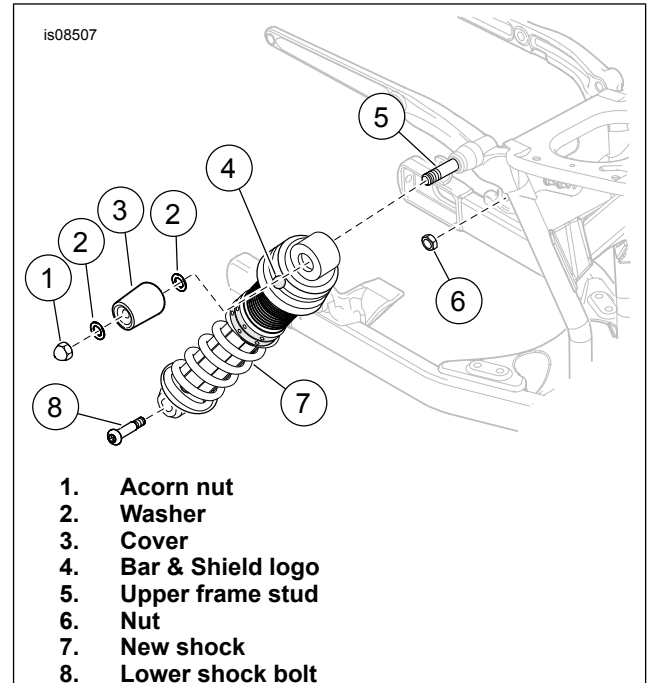

Figure 1. Rear Shock Absorber Installation
1. Install upper shock mount to **Both Sides**: See Figure 1. Position the Bar & Shield logo (4) at the top and facing the outboard side. Install upper shock mount to frame:
- a. Slide the upper shock onto the upper frame stud (5).
- b. Install washer (2) onto upper frame stud.
- c. Install cover (3) onto upper frame stud.
- d. Install washer (2) onto upper frame stud.
- f. Install acorn nut (1).
2. Install lower shock mount to **Right Side**: Apply Loctite 243 (blue) to lower shock bolt (8). Install bolt. Install lower shock mount to **Left Side**: Apply Loctite 243 (blue) to lower shock bolt (8). Install bolt. Install nut (6).